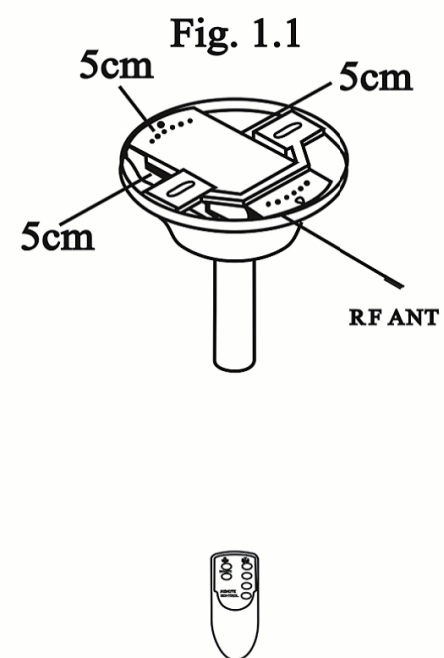

Fig. 2
3. Make the wiring connection as shown in Fig. 1.1 and 1.2. RF sensor must be stuck outside canopy. Its position depends on RF receiving condition. (Fig. 2)